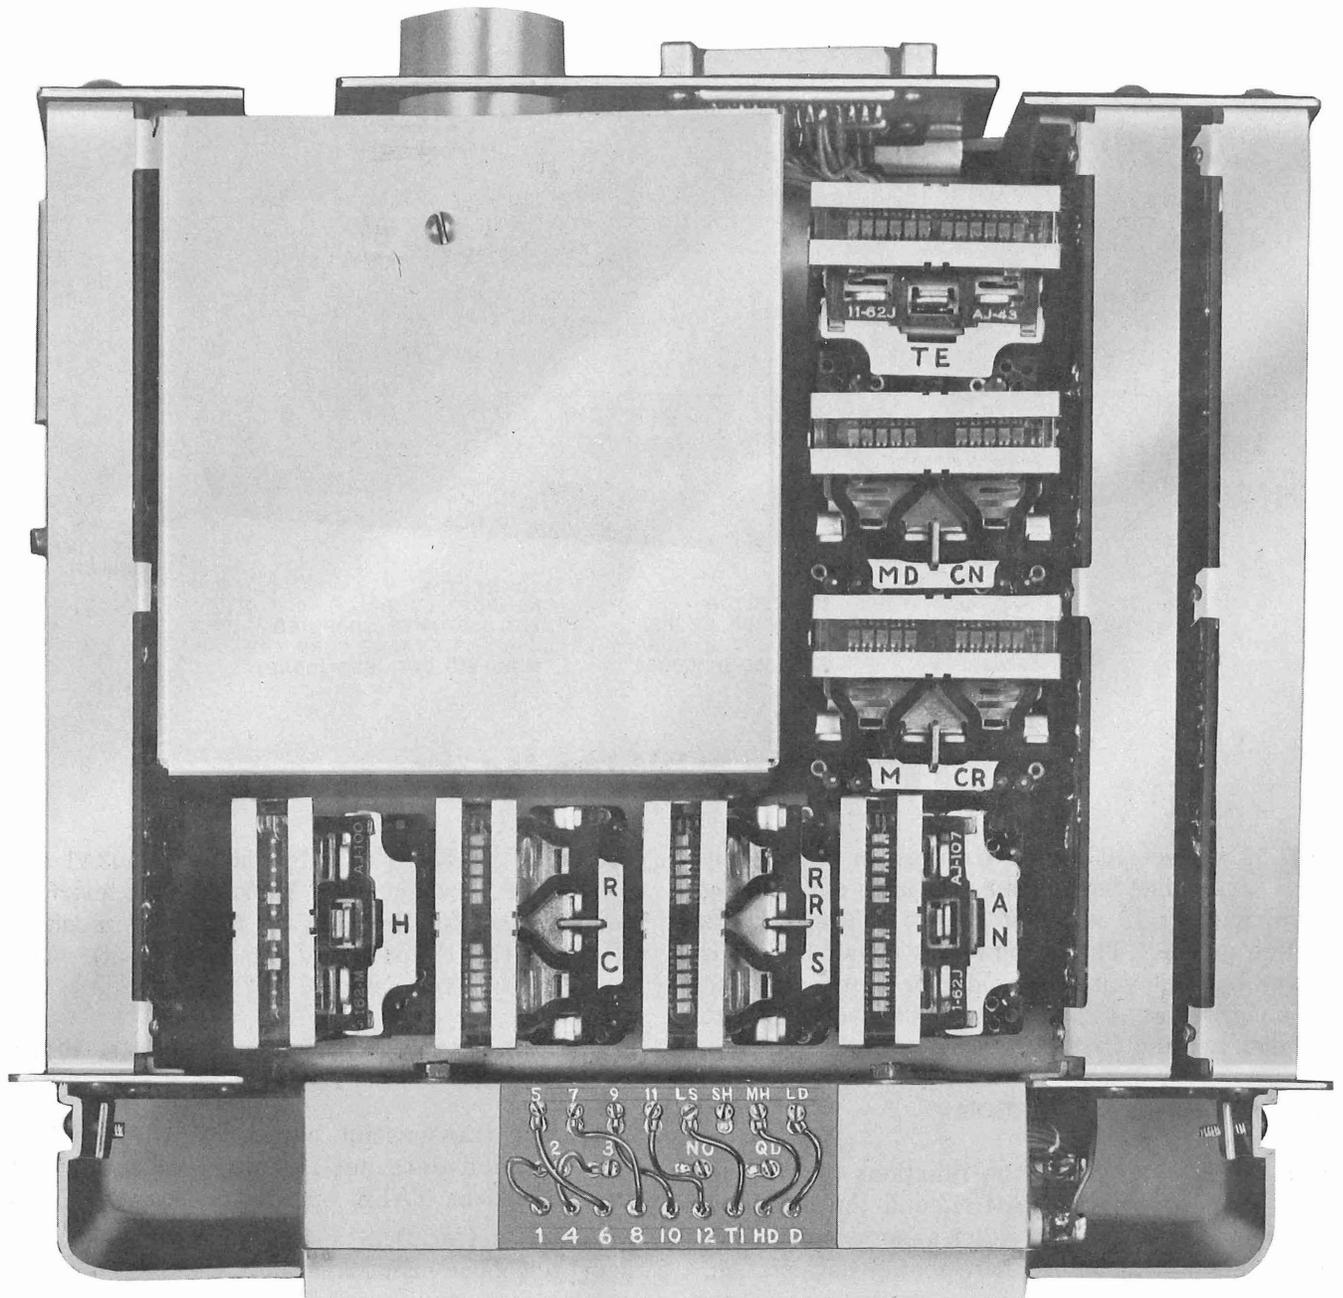

Fig. 3—Data Set 103A—Top View—Cover Removed
2.01 Data set 103A-type consists of four circuit packs, eleven relays (see Fig. 3), and a power supply, all enclosed in a two-tone gray plastic case. Mounted on the rear of the data set is a KS-19087-List 2 twenty-five pin connector (designated CUST EQUIP) for connection to the business machine.